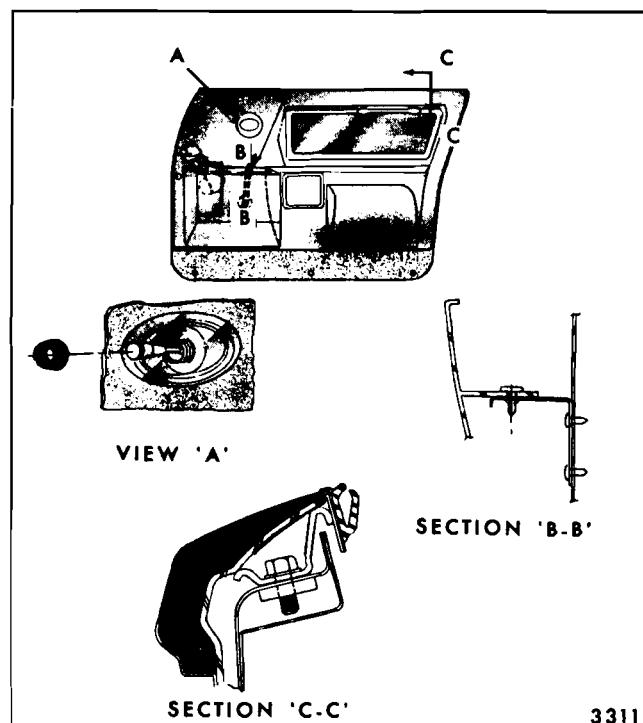

Fig. 14-13—Door Trim Panel Removal - Pontiac Styles
On Pontiac styles, the escutcheon is a threaded spanner nut, which, when removed, permits removal of the mirror controls from the trim assembly (View 'A', Fig. 14-13).
6. On Pontiac 26200 series, 76637 & 39 styles and 27657 style, remove arm rest to hanger plate attaching screw which is exposed when switch cover plate is removed (Section 'B-B', Fig. 14-13).
NOTE: On styles with adjustable trim supports at beltline (Section 'C-C', Fig. 14-13), the door trim assembly can be adjusted in or out so as not to restrict door window operation.